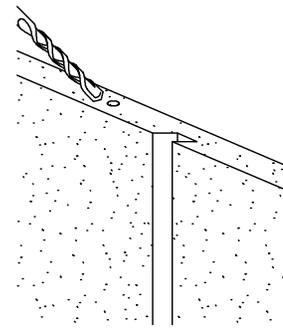

Fig. 1.2
- (b) Pre-drill 3-4 holes with a 1/16” drill bit at a 45 degree angle along the top edge of the panel (Fig 1.2). Please note, at this time it may be necessary to adjust overmantel legs for a snug fit.